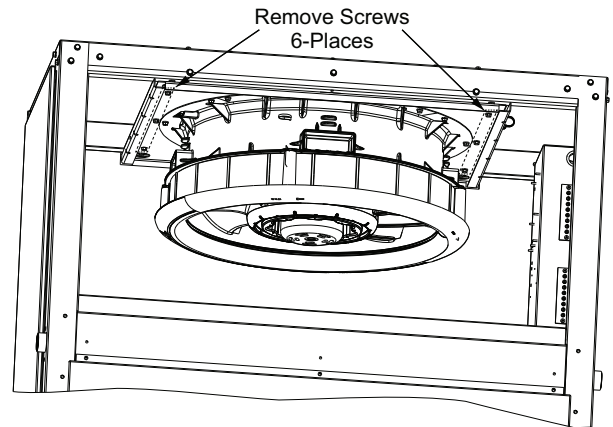

Fig. 30 — Remove Screws from Fan Deck Assembly
3. Remove six screws from the fan deck. See Fig. 30.